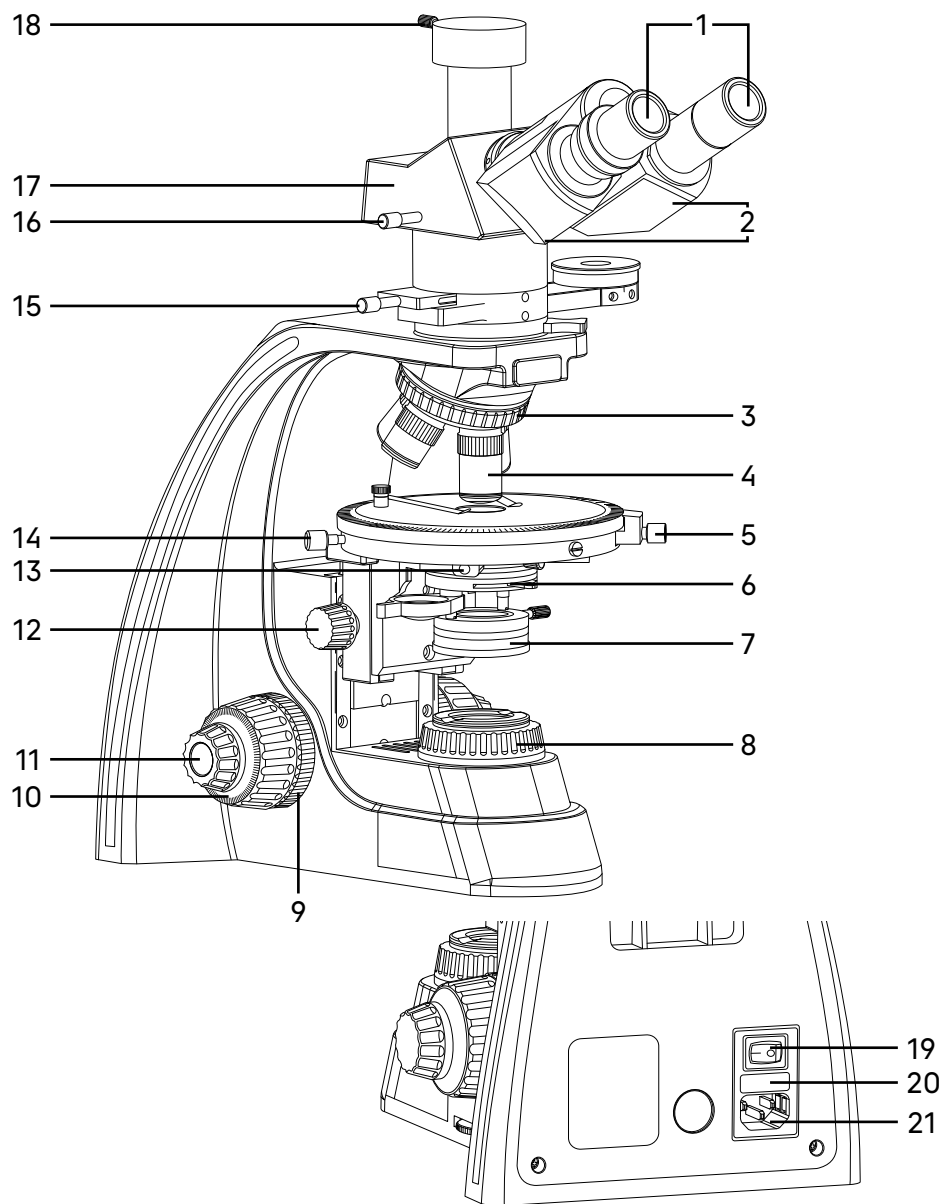
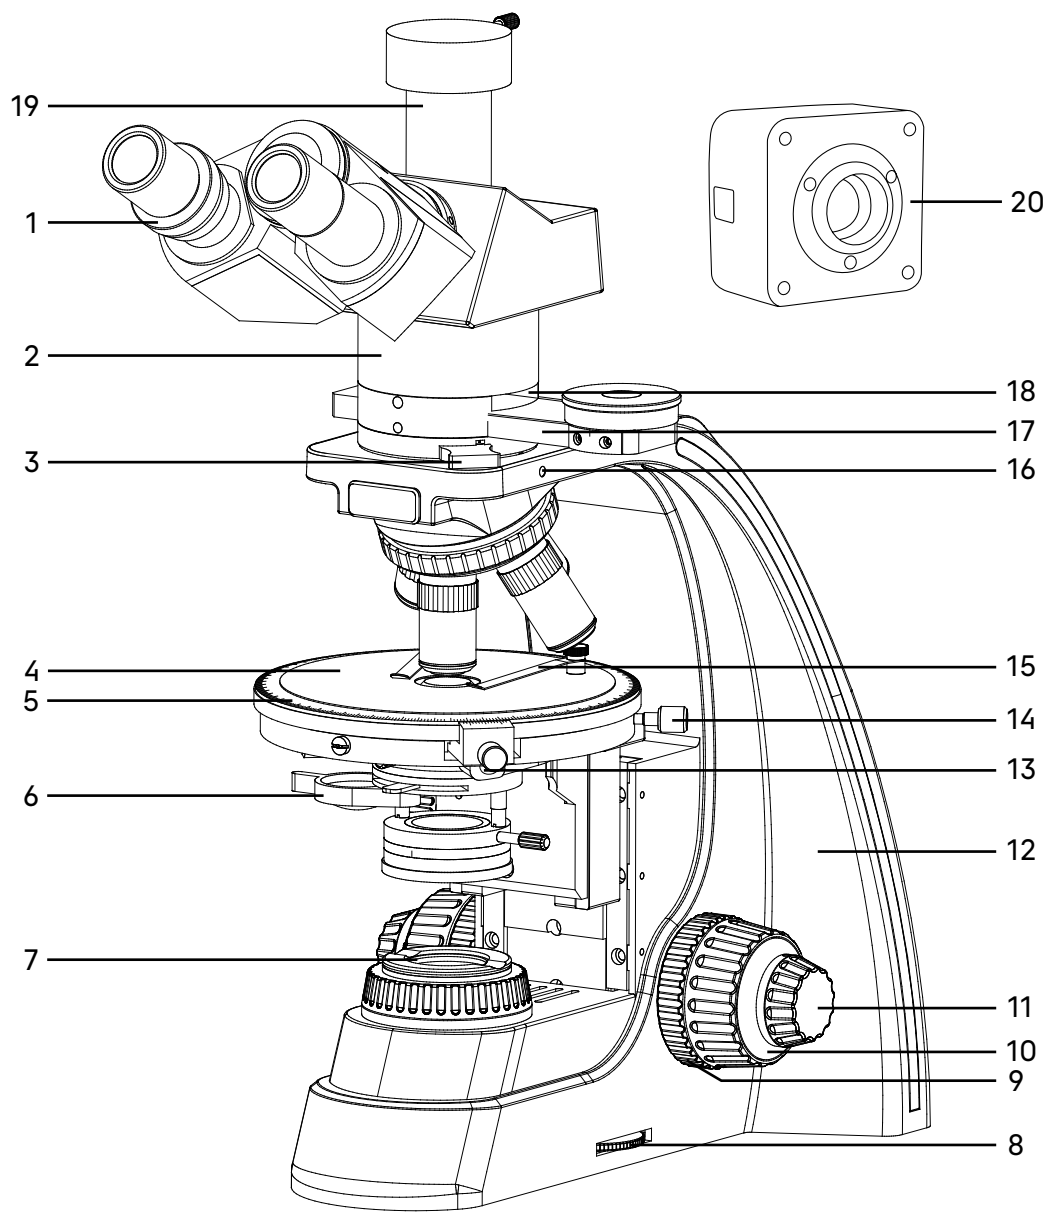

Fig. 1. MAGUS Pol D800 Microscope. View from the left
Fig. 2. MAGUS Pol D800 Microscope. View from the right
The general view of the microscope is given in Fig. 1 and 2.
The stand 12 (Fig. 2) has stable ergonomic design. Parts attached to the stand:
- revolving nosepiece 3 (Fig. 1) with objectives 4 (Fig. 1)
- stage 4 (Fig. 2)
- condenser mount (not shown in Fig. 1 and 2)
- collector 8 (Fig. 1).
The back panel of the microscope stand contains an ON/OFF switch 19 (Fig. 1), fuse holder 20 (Fig. 1), and a connector for the AC power cord 21 (Fig. 1), which connects the microscope to an AC outlet.
There is a brightness adjustment ring 8 (Fig. 2) on the right of the stand.
Focusing on the specimen is achieved by adjusting the height of the stage. Coarse focusing is performed by rotating the coaxial knobs 10 (Fig. 1, 2) on both sides of the microscope stand.
Fine focusing is performed by rotating the knobs 11 (Fig. 1, 2) on both sides of the microscope stand. Fine focusing allows for more precise focusing on the specimen and re-focusing the microscope to get an accurate image resolution when changing objectives and specimens. Fine focusing scale value: $2\mu\text{m}$.
The coarse focusing tension adjustment is performed by the ring 9 (Fig. 2) between the stand and the coarse focusing knob on the right side. The ring adjusts the coarse focusing tension so that the tension is convenient for the user, but the revolving nosepiece with objectives does not lower spontaneously during operation.
The coarse focusing lock knob 9 (Fig. 1) is located on the left side. Once the coarse focusing is completed, we recommend rotating the knob clockwise as far as it will go. This secures the coarse focusing position to allow for rapid re-focusing after the specimen is changed.
The trinocular head 17 (Fig. 1) provides the visual observation of the specimen image. The microscope head is installed in the slot of the intermediate attachment.
An imaging system with a monitor is installed in the trinocular tube 19 (Fig. 2) using a C-mount adapter. You can switch the light path to the trinocular tube using the lever 16 (Fig. 1). The lever has two positions: 100/0 and 0/100.
The microscope kit includes eyepieces 1 (Fig. 1) and an eyepiece with crosshairs. The eyepieces have long eye relief and are designed to work with or without glasses.
The revolving nosepiece 4 (Fig. 2) allows for the installation of five objectives. The free slot is used to adjust the bulb position in the reflected light illuminator and install an additional objective. Objectives are changed by rotating the knurled ring of the revolving nosepiece until the objective fits into place.